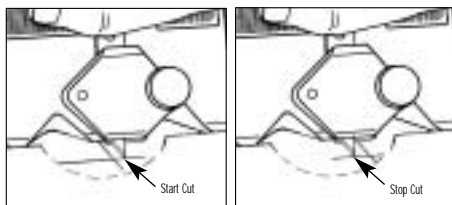

Fig. 3
4. Place tip of blade 1/8" or 2mm behind the lower intersection of pencil line (Fig.3)
7. Stop when the blade tip crosses upper intersection of pencil lines by 1/8" or 2mm (Fig. 3)